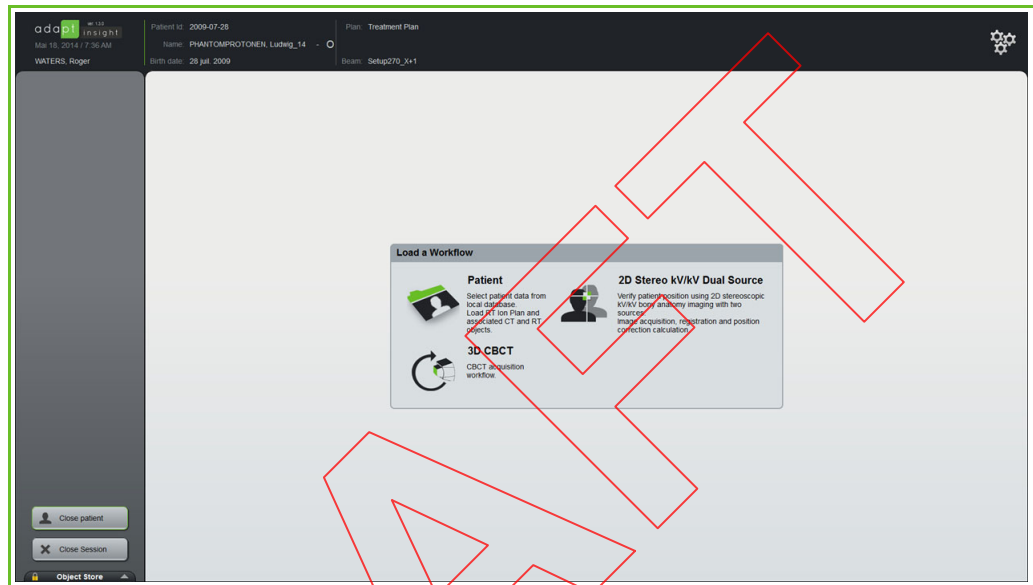

Figure 47-2. AdaPTinsight WORKFLOW SELECTION SCREEN
2. From the ADAPTinsight WORKFLOW SELECTION SCREEN (see Figure 47-2), select the appropriate workflow for the desired image acquisition mode, if not sent automatically